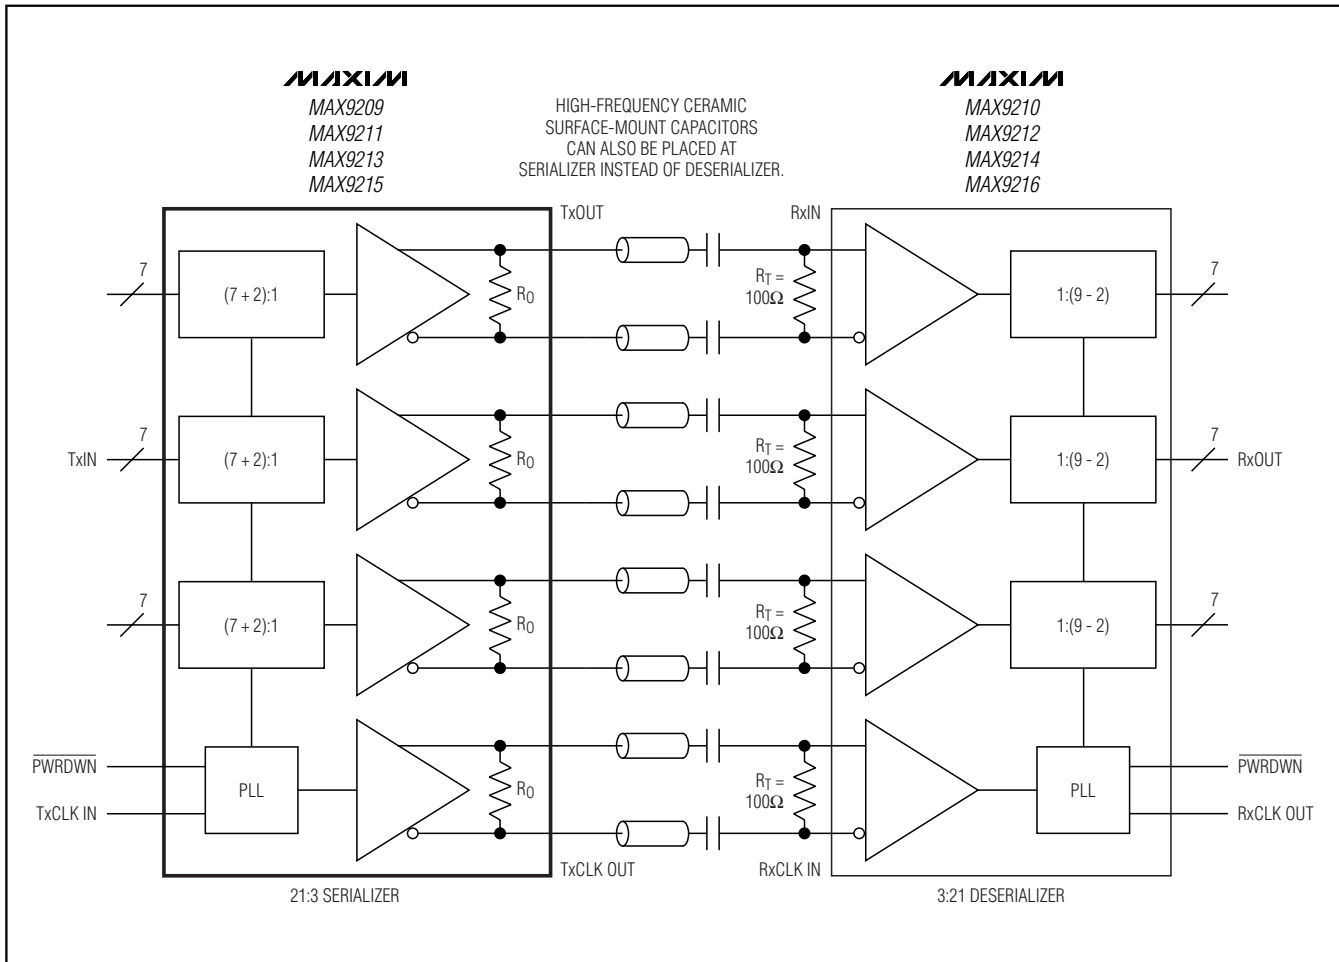
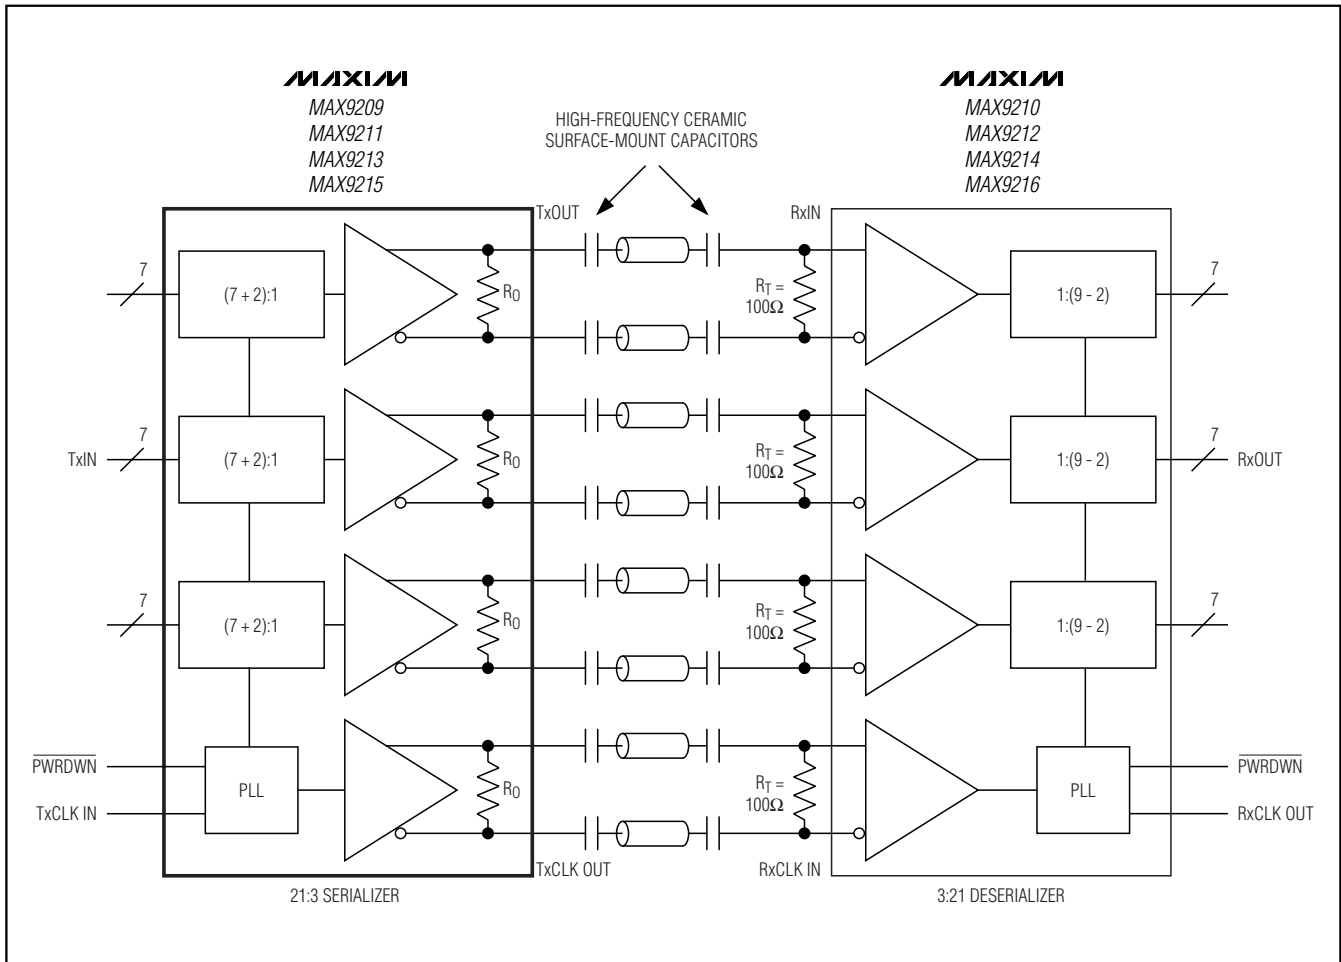

Figure 14. Two Capacitors per Link, AC-Coupled, DC-Balanced Mode
Figure 15. Four Capacitors per Link, AC-Coupled, DC-Balanced Mode
The RC network for an AC-coupled link consists of the LVDS receiver termination resistor ( $R_T$ ), the LVDS driver output resistor ( $R_O$ ), and the series AC-coupling capacitors (C). The RC time constant for two equal-value series capacitors is  $(C \times (R_T + R_O)) / 2$  (Figure 14). The RC time constant for four equal-value series capacitors is  $(C \times (R_T + R_O)) / 4$  (Figure 15).
Equation 1 is for two series capacitors (Figure 14). The bit time ( $t_B$ ) is the period of the parallel clock divided by 9. The DSV is 10. See equation 3 for four series capacitors (Figure 15).
Equation 1 altered for four series capacitors (Figure 15) is: